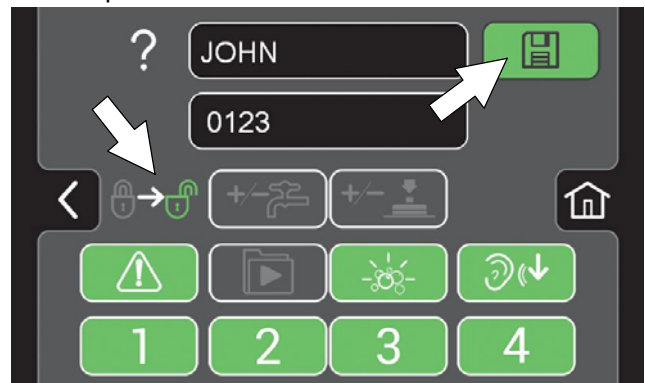

FIG. 163
6. Select the controls the new user should only have access to use (Figure 163). Green represents unlocked controls and gray represents locked controls. Press the flashing save button to save new profile.